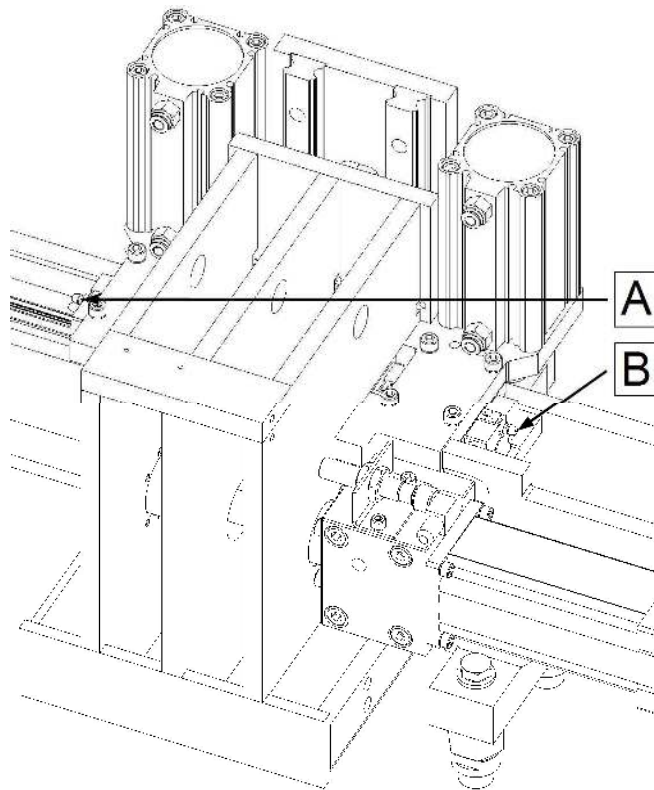
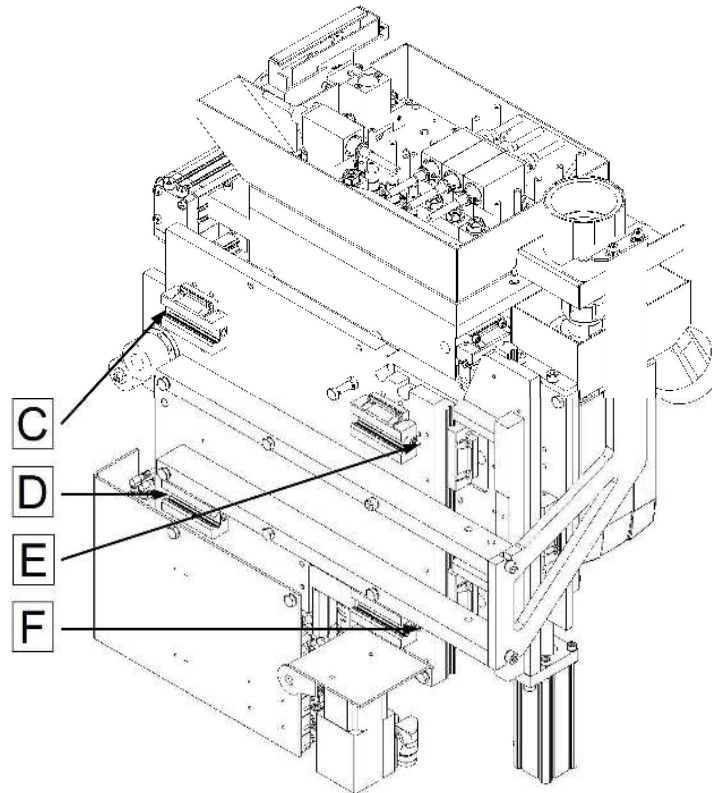

Fig. 46– Lubrication - gripper
Fig.47- Lubrication - processing unit
- This is a lifetime lubrication, except for the guide carriage in figure 46 and 47.
- Lubrication points see Fig. 46, pg. 67 items A, B and Fig. 47, pg. 68 items C, D, E, F.